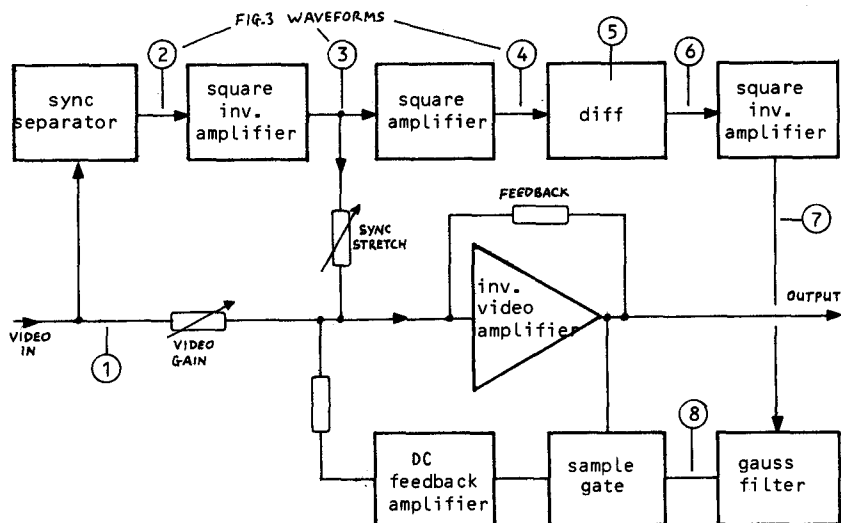
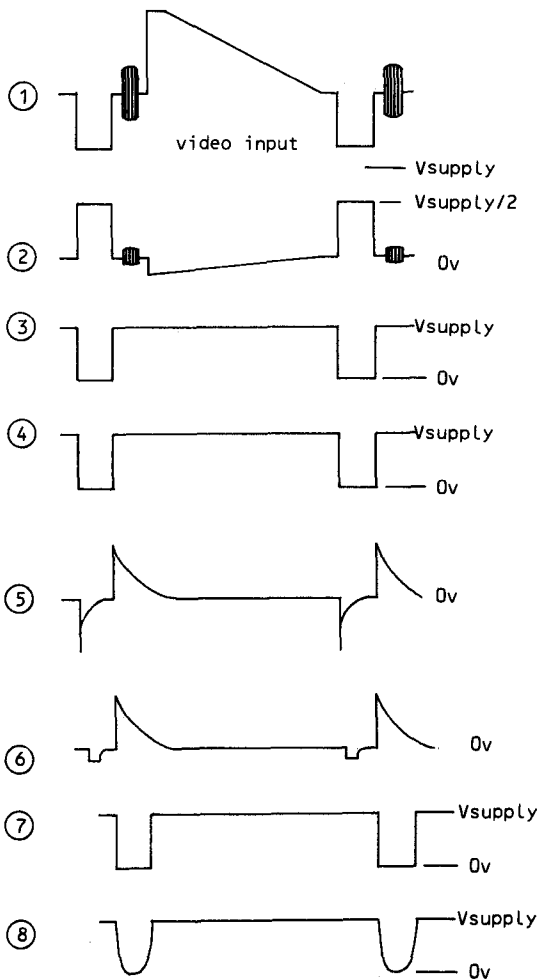

Fig.1 ATV modulator - block diagram
Fig.3
A block diagram is presented in Fig.1 which shows how the modulator is made up of several sub-blocks, each performing a specific function associated with the processing of the video signal. The blocks are:
Once the modulator has been constructed and checked for wiring errors, the following tests are recommended to confirm correct operation. Fig.3 shows some typical waveforms taken from a working modulator. The circled numbers correspond to those shown in Fig.1
4. If all is well up to now then it is fairly certain that the modulator is functioning correctly. Check the composite sync test point (TP) where around 12V of sync should be observed. Check the junction of R11 and D5 where a gaussian pulse should be observed, positioned over the back porch of the video still being displayed on the 'scope (see Fig.3 waveform 8)